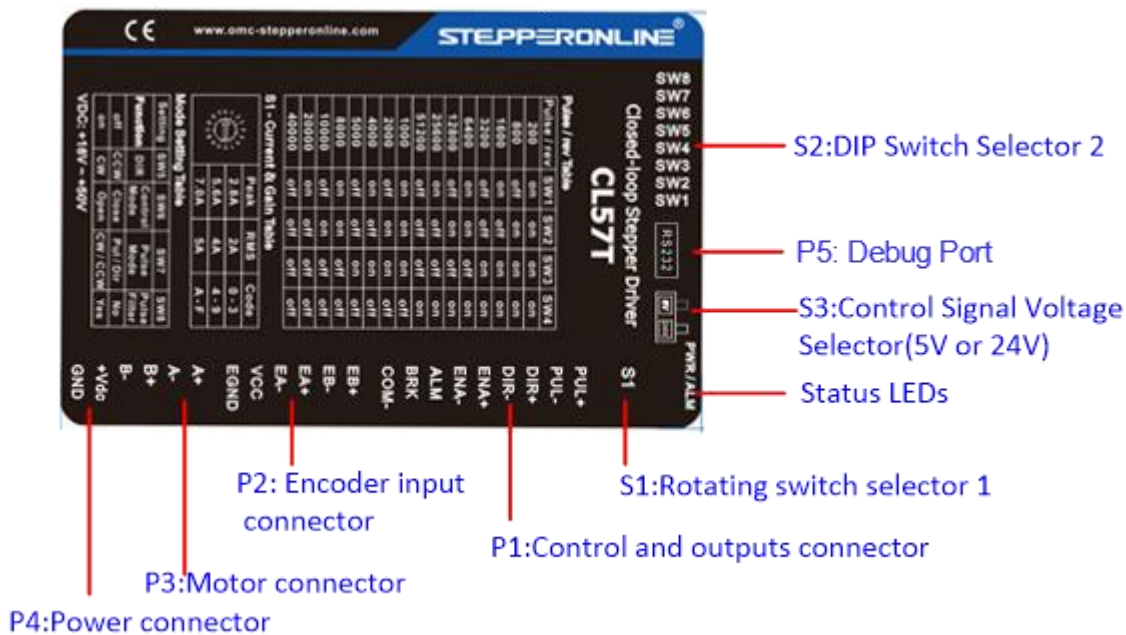

Figure 2: CL57T(V4.1) connectors
A CL57T(V4.1) closed loop stepper drive has 5 connection blocks from P1 to P5 (see figure 2).
The P1 connector in Figure 2 contains connections for control signals and 2 digital output.
(5) DIR signal requires advance PUL signal minimum 2 µs in single pulse mode
(6) The factory setting of control signal voltage is 24V, must need to set S3 (figure 2) if it is 5V
The P2 connector in Figure 2 is for encoder signals connection. Refer to the following table for details.
The P5 connector in Figure 2 is a RS232 communication port for PC connection. Refer to the following pin definitions. CL57T has a tuning port with RS232 to modify the drive parameters, it is just used to modify parameter, not for equipment control because neither precision nor stability is sufficient.
The 8-bit is located on the side (DIP switch S2 in Figure 2) and used to configure settings of micro step resolution, output current, and motor standstill current as shown below